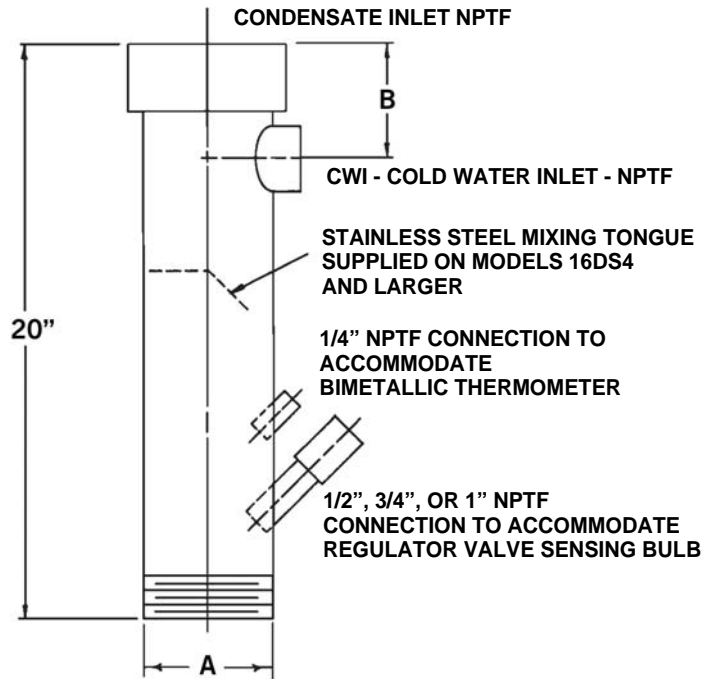

Figure 3. Automatic Drain Water Aftercooler (16DS) Dimensions
1. Model 18DF Aftercooler (Figure 1) or Model 16DS (Figure 3). Nonclogging automatic drain tempering fitting with stainless steel mixing tongue (on 4" and larger) to provide thorough mixing of influent cold water with drain water. The middle flange (Model 18DF) permits rotation for various pipe fitting requirements and also serves as a dismantling flange. Two bulb-wells for mounting control valve and thermometer are furnished. When ordering, state cold water inlet size.